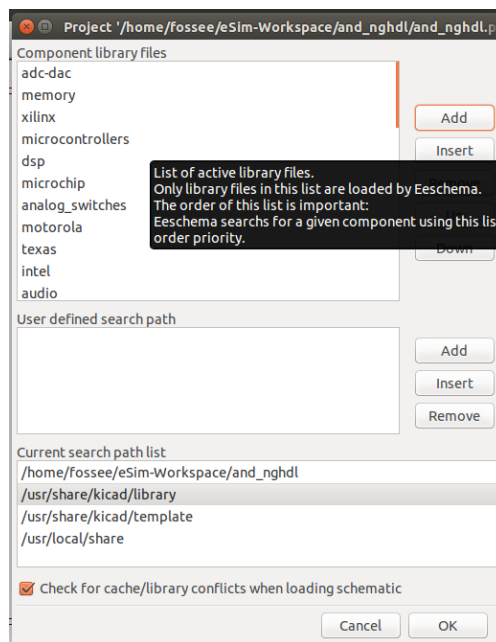
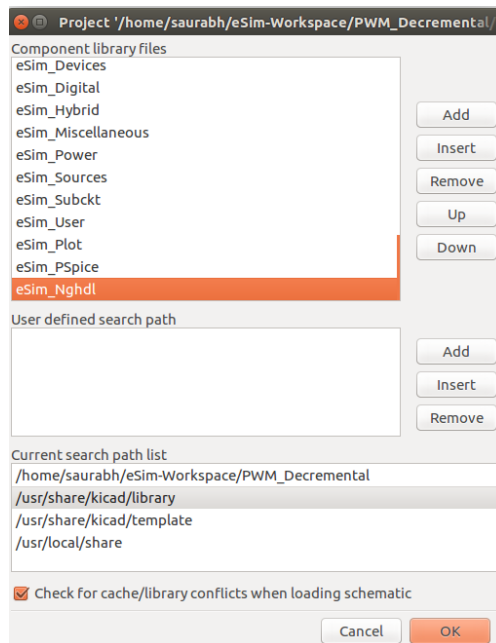

Figure 10.6: Adding the digital model library in KiCad
Figure 10.7: Selection of library
2. After successful upload of the model using the VHDL code, you can create the schematic of your design by clicking on **Open Schematic** button on the left pane of the eSim window. Then go to **Preferences** option on top of the schematic editor window and click on **Component Libraries** to add the library eSim\_Nghdl.lib in KiCad. Following window will appear as shown in Fig. 10.6, where you will have
to click on *Add* button and select the eSim\_Nghdl library. Refer Fig. 10.6 and Fig. 10.7.